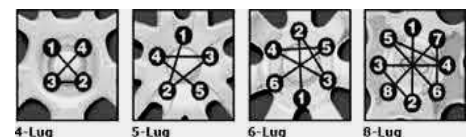

Figure 3 Wheel Nut Tightening Pattern
9. Once bleeding is completed, install wheel per manufacturer's specs. As a general rule, follow Figure 3 for tightening order of wheel nuts. Tightening wheel nuts in this order helps ensure concentricity of wheel assemblies. Torque wheel nuts to manufacturer's specs.